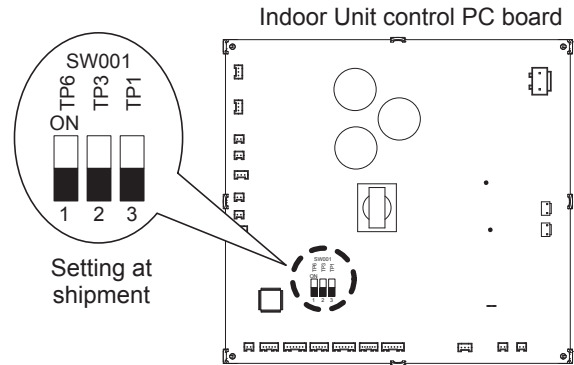

Fig. 1-12-2-1-3
- (1) Refer to Tables 1-12-2-1-3, 1-12-2-1-4 and Fig. 1-12-2-1-4 for details on the relationship between the value of item code “5d” and the external static pressure.
- (2) When set in group control (connecting multiple indoor units with one timer remote controller), set each indoor unit to item code “5d”.
- **Make sure the external static pressure is in a range of specifications. Then proceed the external static pressure setting. Improper settings can cause noise, a shortage of airflow volume and water leakage. Refer to Fig. 1-12-2-1-4 for the external static pressure setting range.**
2. Open the lid of the electrical component box and confirm the location where the Select switch on the indoor unit control PCB is placed. (Fig. 1-12-2-1-3)
4. Press the / buttons for the time to amend the values for the set data. Refer to Table 1-12-2-1-3 and Fig. 1-12-2-1-4 and select a value “ **0006** ”, “ **0003** ” or “ **0001** ”.